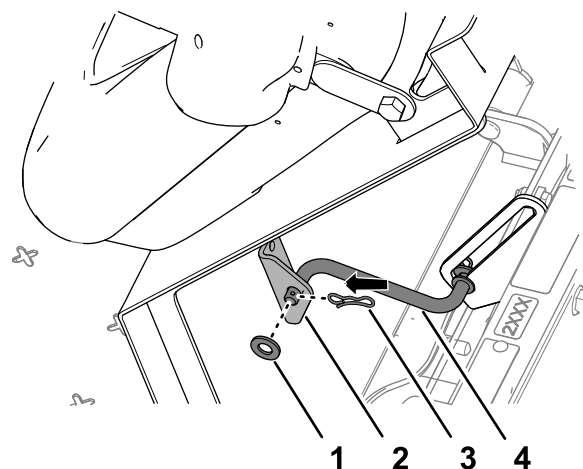

Figure 222
5. Assemble the prop rod to the bracket of the seat with the washer and hairpin (Figure 222).